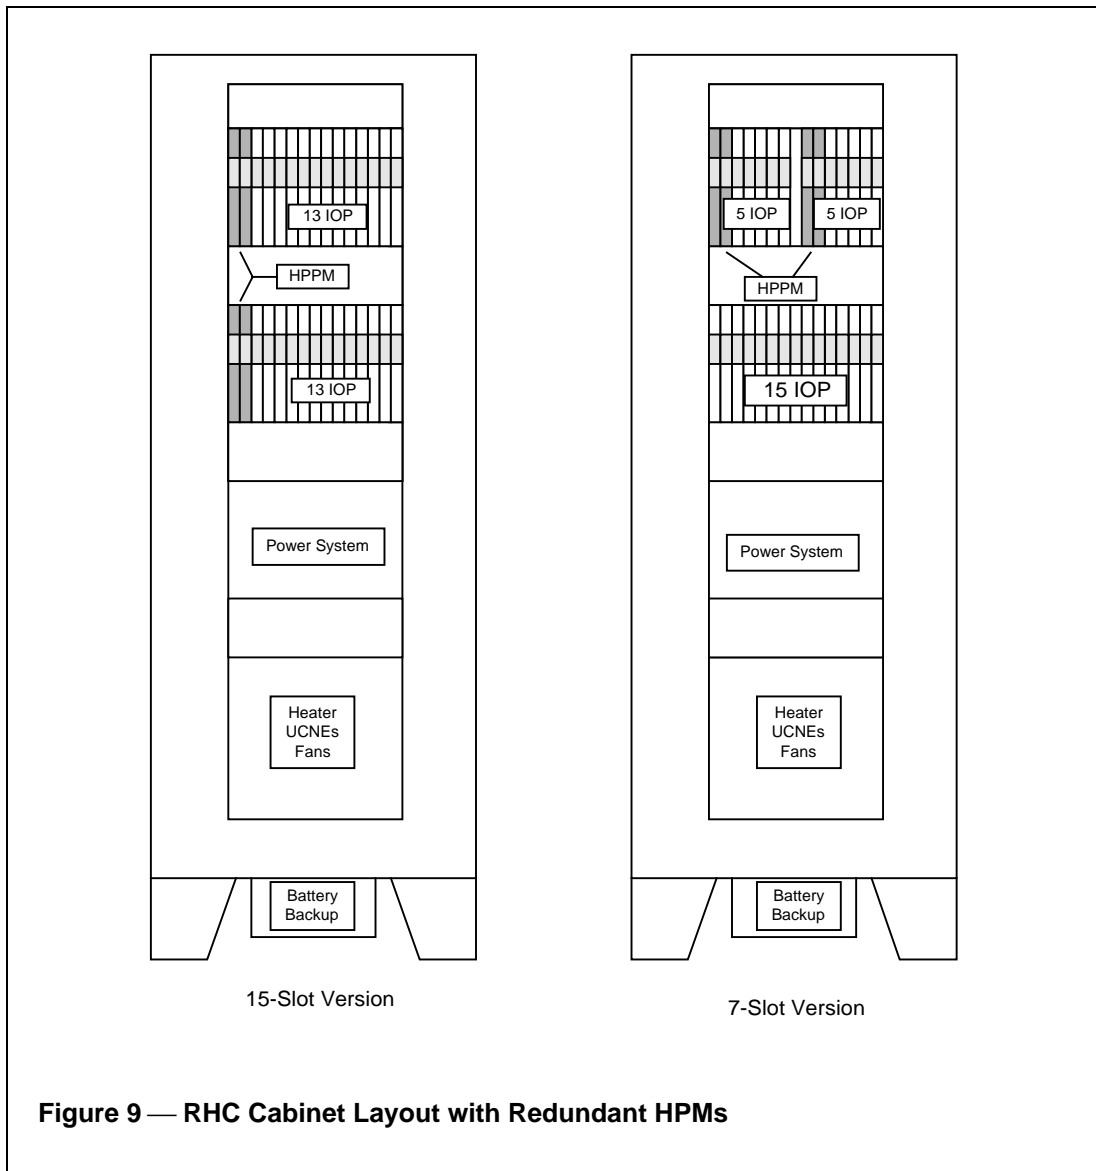

Figure 9 — RHC Cabinet Layout with Redundant HPMs
A typical base HPM configuration consists of up to either 2 or 3 card files, depending on whether 15-slot or 7-slot files are used, as illustrated in Figure 9. When options such as I/O redundancy and/or remote I/O are used, configurations with up to (8) 15 slot or (16) 7 slot card files can be provided.